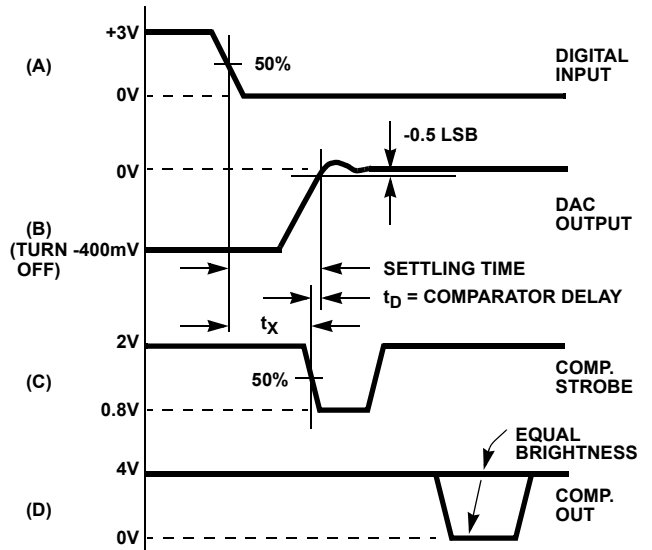

FIGURE 3B.
As shown in Figure 3B, settling time equals t_X plus the comparator delay ($t_D = 15$ ns). To measure t_X :
- Adjust the V_{LSB} supply for 50% triggering at COMPARATOR OUT. This is indicated by traces of equal brightness on the oscilloscope display as shown in Figure 3B. Note DVM reading.
- Switch the LSB to Pulse (P).
- Measure t_X from scope as shown in Figure 3B. Settling time equals $t_X + t_D$, i.e., $t_X + 15$ ns.